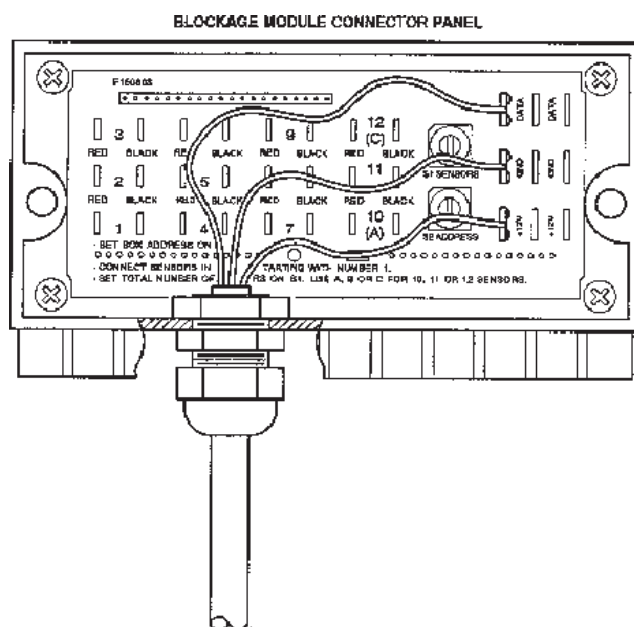

FIGURE 4: COMMUNICATION HARNESS ELECTRICAL CONNECTION
- Connect the first module on the system to the Air Cart wiring harness using the cable with a connector on it. **White or Red wire is +12VDC, Green or Brown is Data, and Black is Ground.** See figure 4.